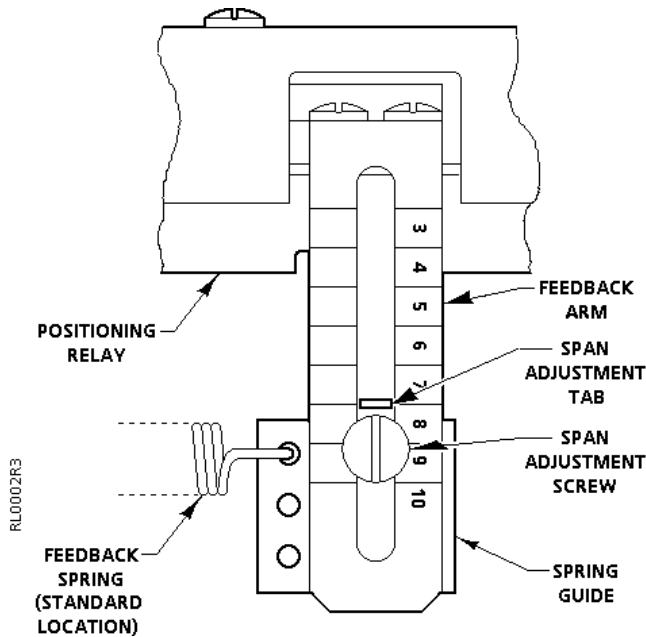

Figure 4. Span Adjustment.
Setting the Span. Refer to Figure 4.
1. Check that the feedback spring is attached to the spring guide in the hole across from the span adjustment screw. This is identified as the standard location in Figure 4.
2. Move the feedback spring one hole away from the standard location for a span of 11 psig (76 kPa) and two holes away from the standard spring location for a 12 psig (83 kPa) span. Refer to Figure 4.
4. If the span is not the desired span, move the spring guide to a higher reference number to increase the span or lower number to decrease the span. Refer to Figure 4.